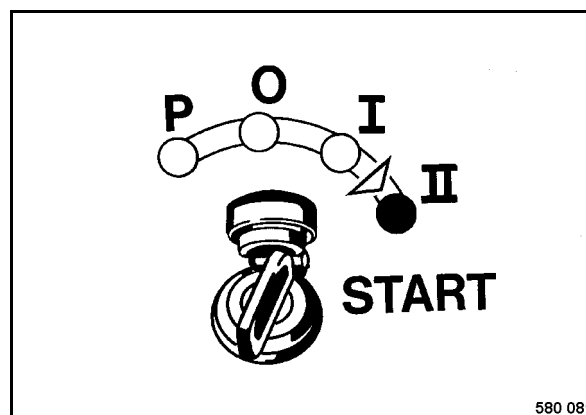

Fig. 76
- Turn the ignition key (Fig. 76) to position „II engine start.